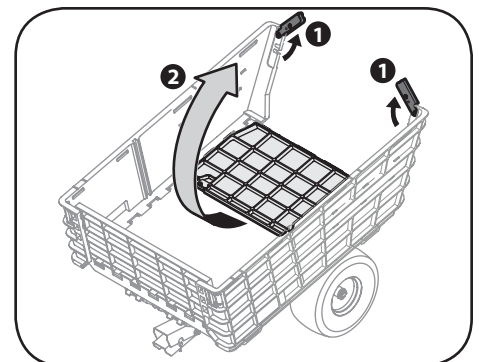

Figure 3-7
10. Lift the tailgate latches and then lift the tailgate into place. See Figure 3-7.